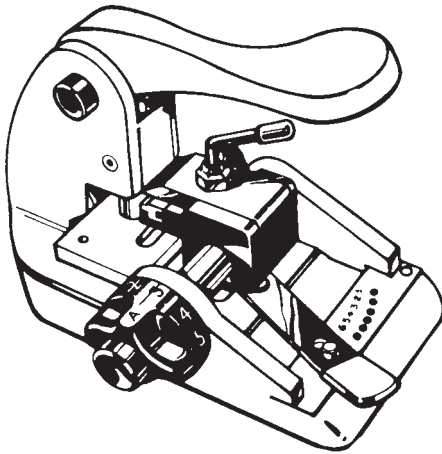

Figure 2.30 A mechanical code key cutter lets locksmiths make accurate keys without having a key to duplicate. (Ilco)
- Code key cutting machine, manual (Fig. 2.30)